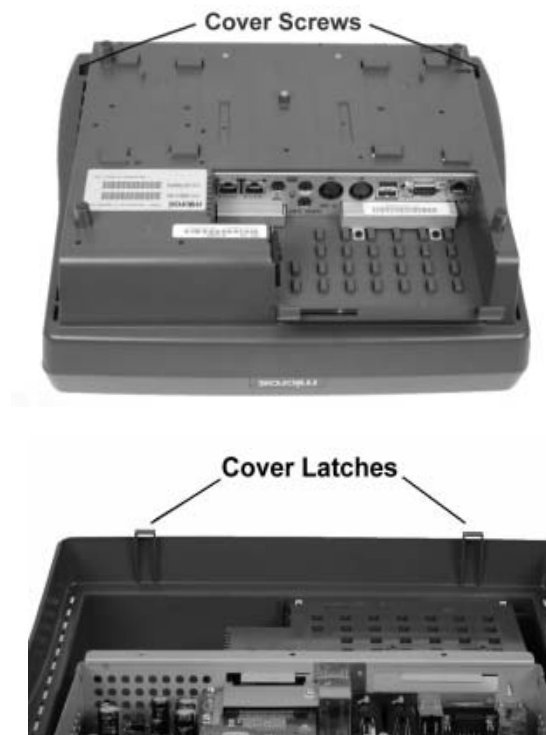

Figure 2-1: KWS4 Cover Hinges and Screws
- o The top cover is held in place by a pair of screws accessible from the underside of the unit as shown in the top half of Figure 2-1. The lower half of the illustration points out the hinges located at the rear of the base.
3. Loosen the two captive screws from the under side of the unit as shown in Figure 2-1.